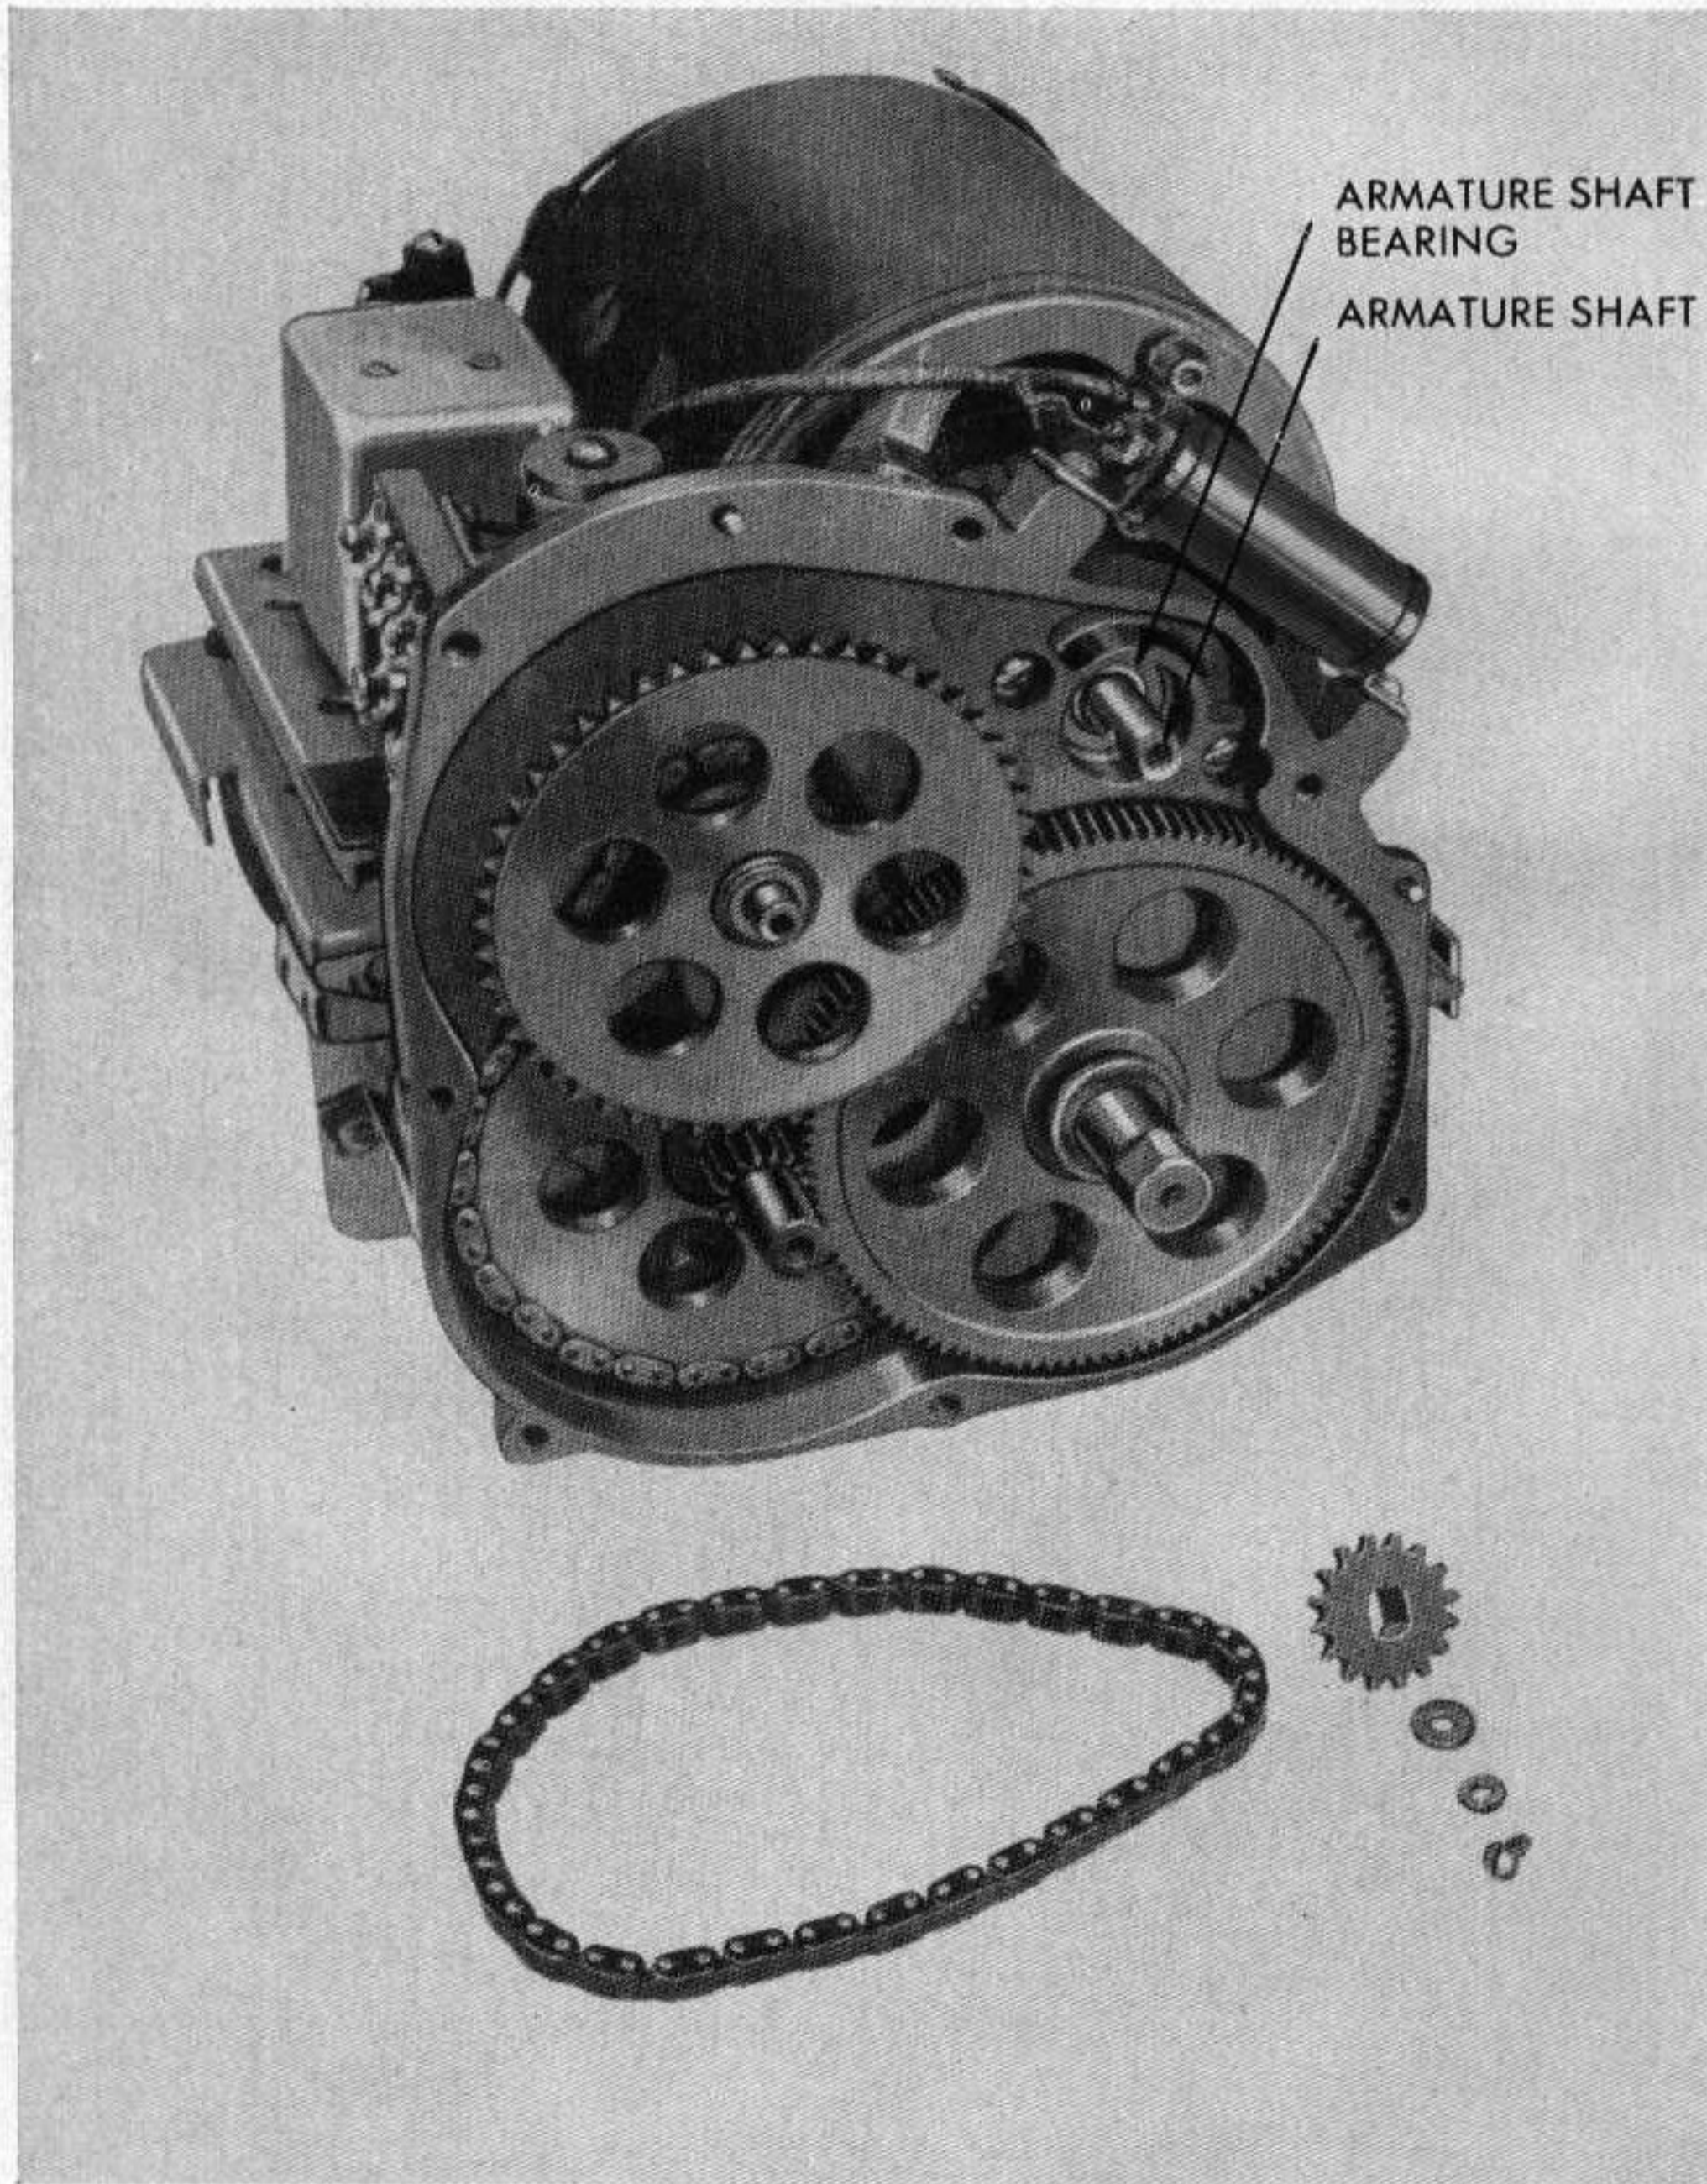

Figure 114.2. Generator GN-58-A-GY, sprocket gear, and sprocket chain removed.
- d. The sprocket gear is press-fitted to the shaft. Pry it off gently (fig. 114.2).